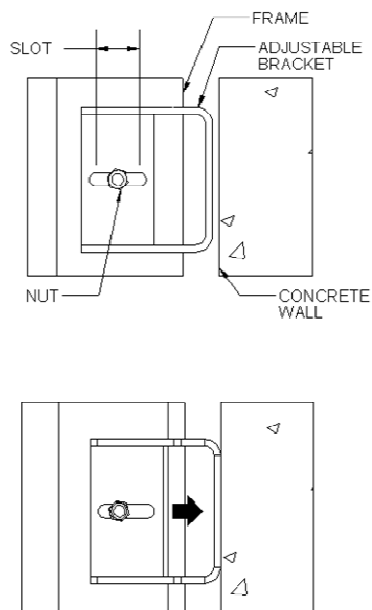
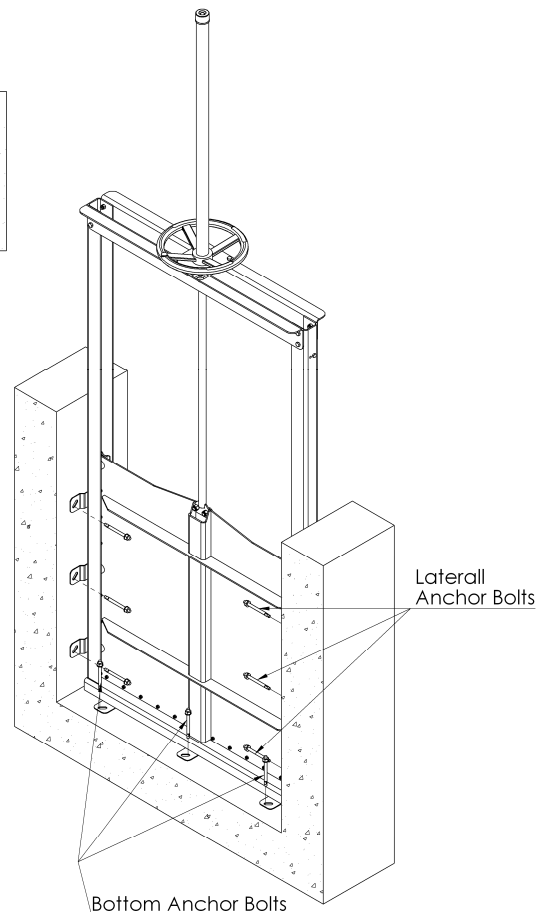

Figure 7
Figure 8
- Install the bottom anchor bolts, and then the lateral anchor bolts (see Figure 8). All Face Mounted Channel Gates incorporate bottom and lateral mounting brackets. For smaller sizes (typically under 60"), the channel gate includes lateral flexible brackets (as seen in Figure 8) that require no field adjustment. For bigger sizes (typically over 64"), the channel gate includes "Field Adjustment Brackets". In order to adjust the bracket, the following steps shall be followed (see Figure 7):
- Grout fill the remaining voids (See Figure 8), both at the bottom (See Figure 9) and laterals of the gate (See Figure 10). Remember that the objective of the grout fill is twofold: